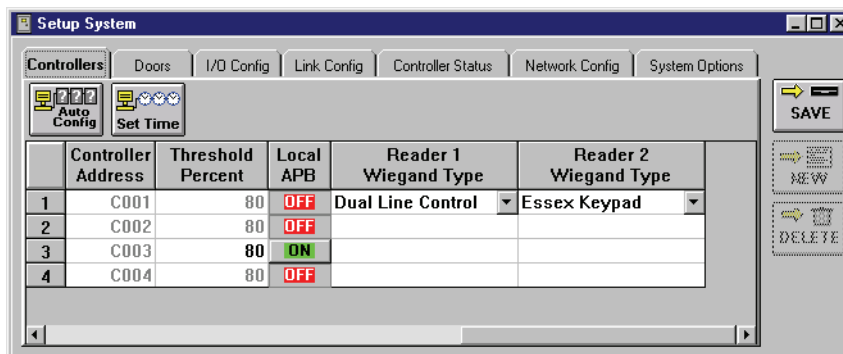

Figure 3-17: Set Wiegand Reader Types
1. To set the Wiegand reader type, click on the Setup ⇒ System pull-down menu or click on the  tool bar button. Then click on the **Controllers** tab. If the “Reader Wiegand Type” columns do not appear in the window, use the scroll bar at the bottom of the window and scroll to the right until the columns appear (see Figure 3-17).
4. If that reader is an Essex Keypad, select that type. If not, the reader must be either Single Line or Dual Line. Review the manual for the Wiegand reader and determine the number of LED control lines used by the device. If one LED control line is used, select Single Line. If two LED control lines are used, select Dual Line. In the following example (see Figure 3-17) reader 1 has been set to Dual Line and reader 2 has been set to Essex Keypad.